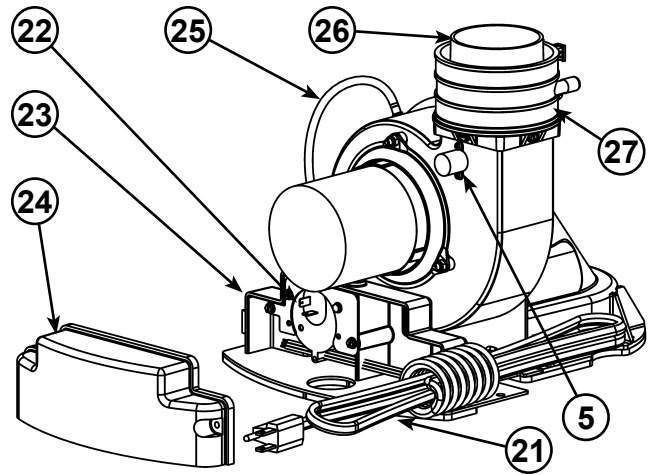

Figure 62
5. Blower High Limit Switch (see Figure 62)
21. Blower with Power Cord (see also Figure 62)
22. Air Switch (inside box) (see Figure 62)
23. Junction Box (see Figure 62)
24. Junction Box Cover (see Figure 62)
25. Air Tubing (see Figure 62)
26. Rubber Coupling (see also Figure 62)
27. Gear Clamp (see also Figure 62)